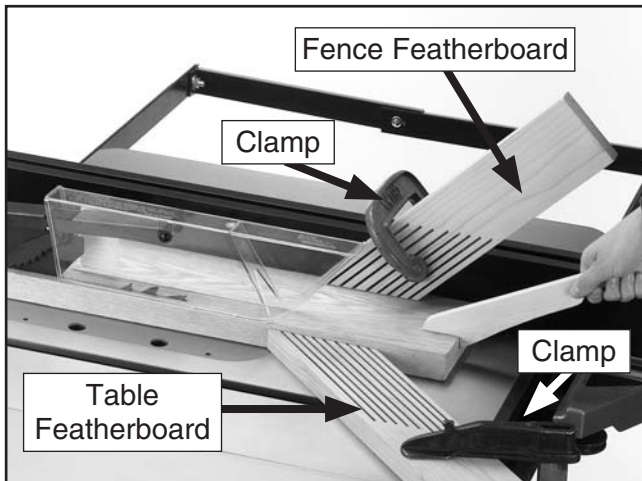

Figure 84. Example of featherboards secured with clamps.
3. Place a featherboard on the table away from the blade so all fingers point forward and contact the workpiece (see **Figure 84**).
6. Mount a second featherboard to the fence with another clamp (see **Figure 84**), then repeat **Step 5** to ensure it is secure.